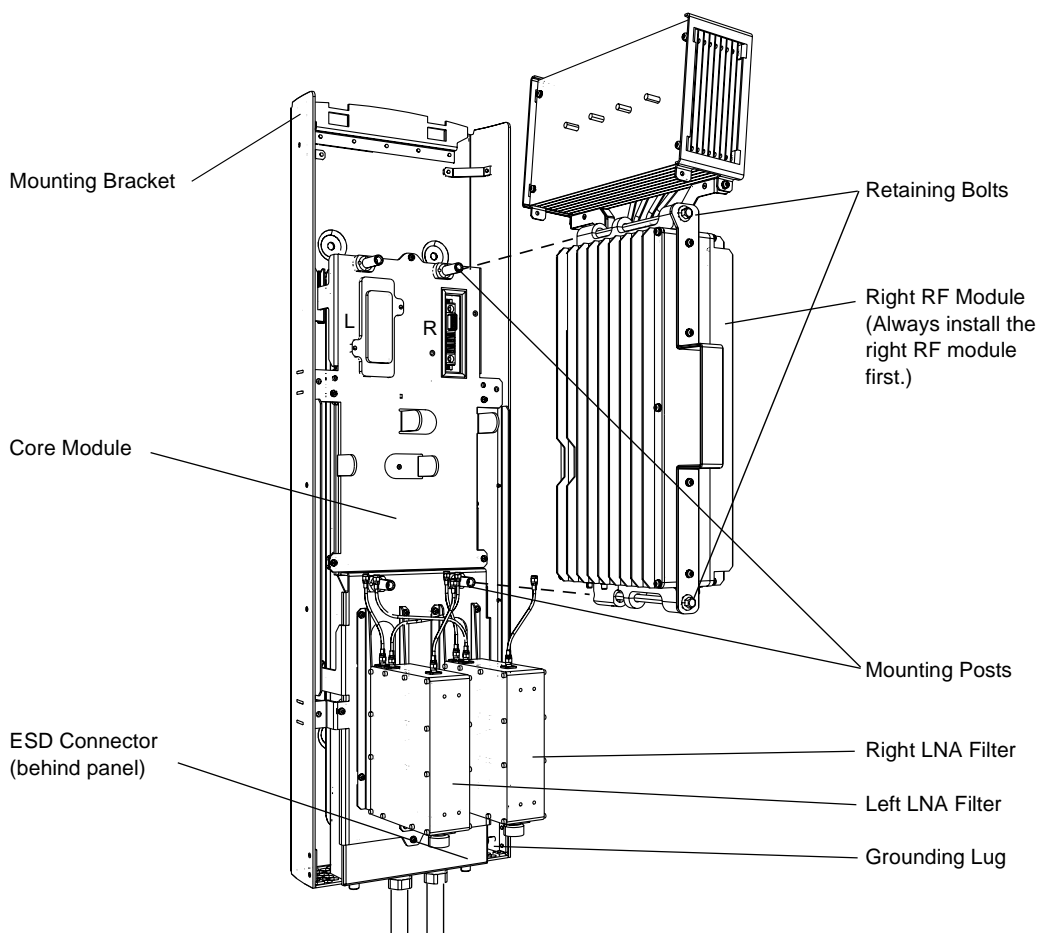

Figure 3-2 Installing the RF Modules
If the RF modules are not installed you will need to install them. Figure 3-2 shows the first RF module being installed. The second RF module is installed in the same manner as the first. For ease of cabling and consistency, install the right RF module first.
You must wear ESD wrist straps when working near the Core-to-RF module connectors or you could seriously damage the RBS. You can connect the strap to the ESD connector on the core module. For the location of the ESD connector, see Figure 3-2 on page 3-3.
3. Fit the RF module onto the mounting posts on the core module as shown in Figure 3-2 on page 3-3.